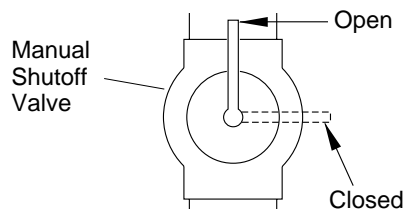

Figure 37 - Manual Shutoff Valve
1. Close manual shutoff valve (see Figure 37).
1. Open manual shutoff valve (see Figure 37).